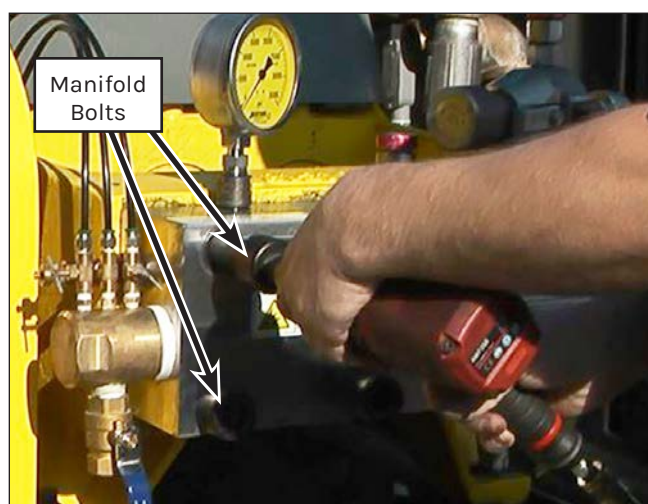

Figure 61: Manifold Bolt Removal.
7. Remove the top manifold bolts (Figure 61) at each corner.